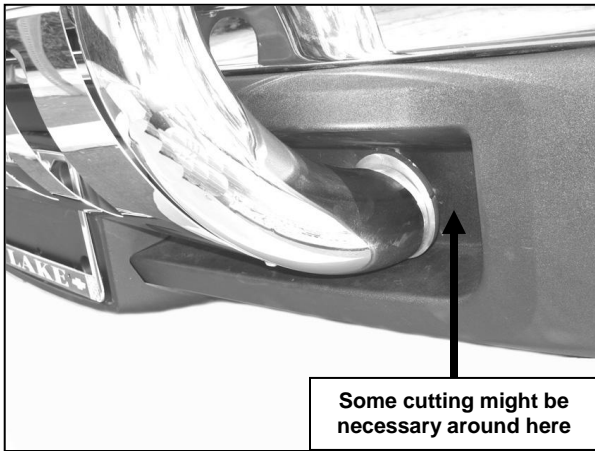

Figure 3
- 7.** With help position Bull Bar assembly on the inner side of Frame Brackets. Attach Bull Bar Brackets to Frame Brackets using the included (4) 10mm x 30mm Hex Head Bolts, (4) 10mm Lock Nuts, (4) 10mm Hex Nuts, and (8) 10mm Flat Washers (**Figure 3 & 4**). Do not tighten at this time.